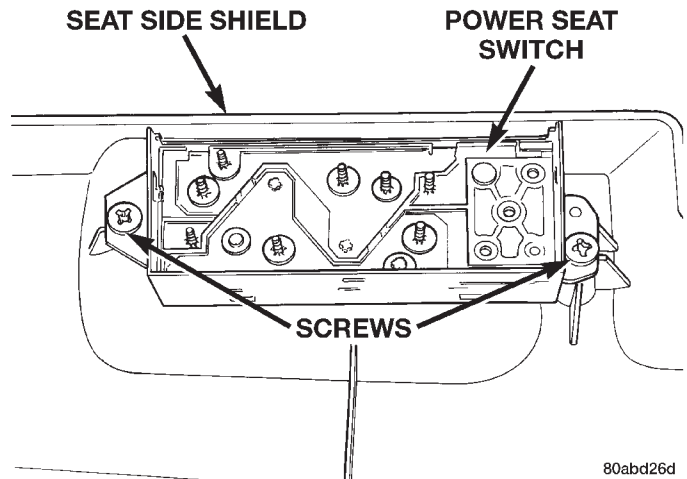
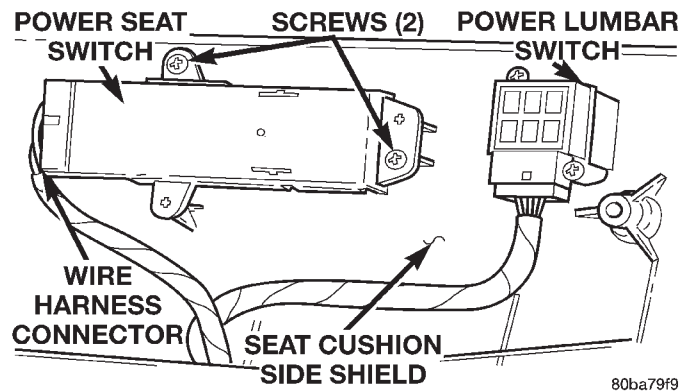

Fig. 10 Six-Way Power Seat Switches Remove/ Install
Fig. 11 Ten-Way Power Seat Switches Remove/ Install
- (1) Disconnect and isolate the battery negative cable.
- (2) On models with the ten-way power seat system only, using a trim stick or another suitable wide flat-bladed tool, gently pry the power seat and power recliner switch knobs off of the switch stems.
- (3) Remove the three screws that secure the outboard seat cushion side shield to the seat cushion frame.
- (4) Pull the outboard seat cushion side shield away from the seat cushion frame far enough to access the power seat switch wire harness connector.
- (5) Disconnect the power seat wire harness connector from the power seat switch connector receptacle.
- (6) Remove the two screws that secure the power seat switch to the inside of the outboard seat cushion side shield (Fig. 10) or (Fig. 11).
- (7) Remove the power seat switch from the outboard seat cushion side shield.